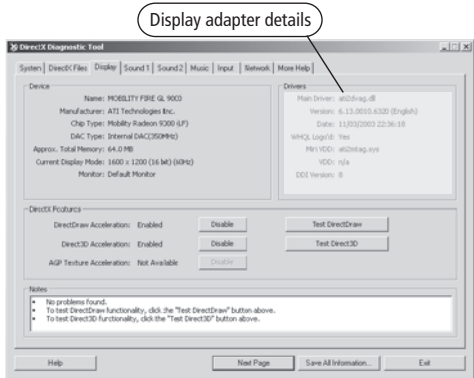

Figure 2-4: Direct X Diagnostics screen 2.
5. Click the *Display or Display 1* tab. The display adapter screen is displayed. See Figure 2-4